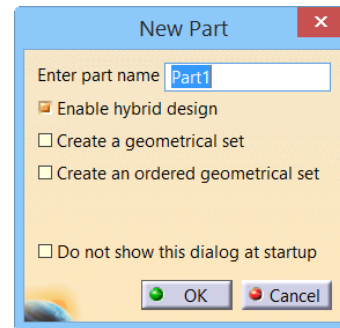

Figure 2-43 The **New Part** dialog box
2. Choose **Close** from the **File** menu to close the **Product1** file. Next, choose **Start > Mechanical Design > Part Design** from the menu bar; the **New Part** dialog box is displayed, as shown in Figure 2-43.